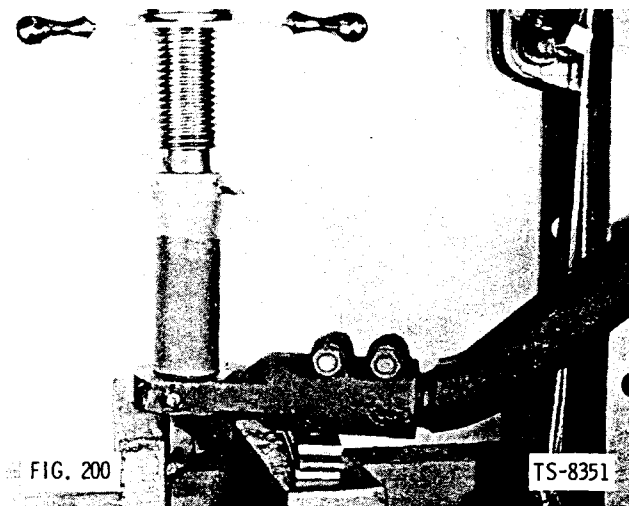

FIG. 200
42. Press bushings into tie rod (Fig. 200). Press only on outer race to prevent damage to bushing.